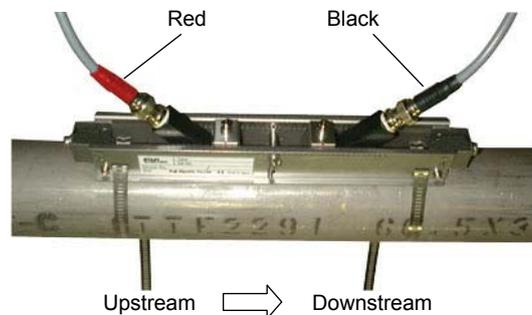

Fig. 5-15
- (4) Engage the signal line with BNC connectors of the sensor units. At this time, do not mistake the upstream and downstream sides for each other. Engage the red BNC connector upstream, and the black BNC connector downstream (see Fig. 5-15).